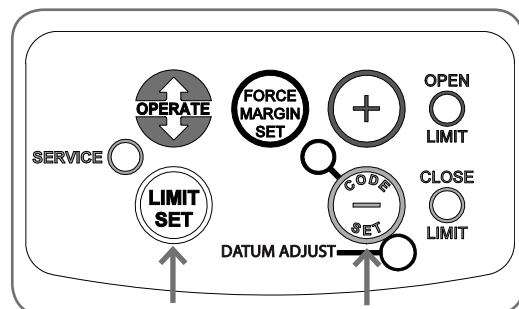

Fig. 26
- Using a small blade screwdriver, turn the DATUM ADJUST screw until the yellow SERVICE light comes on (Fig. 26).